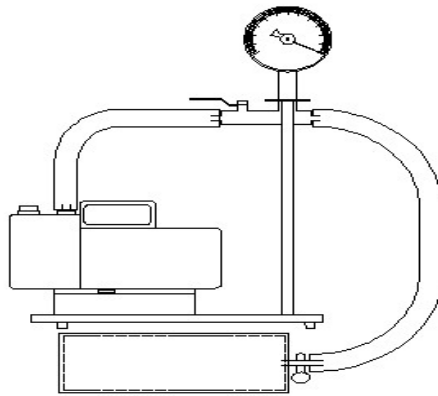

Figure 4 Schematic of experimental setup
- b) Turn on the pycnometer switch, put it on the electronic physical balance to weigh the total mass  $m_1$  of air and pycnometer, and then lay it down on the table, the bottle mouth is connected to the vacuum tube, refer to Figure 4.